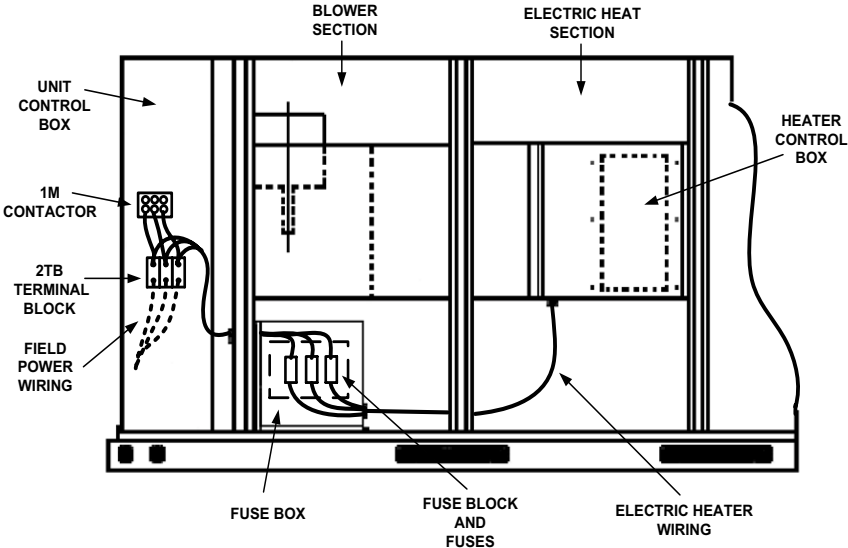

FIGURE 1 - TYPICAL FUSE BLOCK INSTALLATION FOR DCE/DHE/DEE/DHC/DHB 036 THRU 076 PACKAGED COOLING UNITS AND BCH/BCB 036 THRU 060 PACKAGED HEAT PUMPS
4. Mount the fuse box (containing the fuse block and fuses) inside the blower section. Attach the upper left hand flange on the fuse box to the back of the main control box with one screw provided. The mounting hole is located above the 1RC capacitor. Attach the bottom right hand flange on the fuse box to the unit 1 base, at the holes provided, with two screws. See Figure 1.